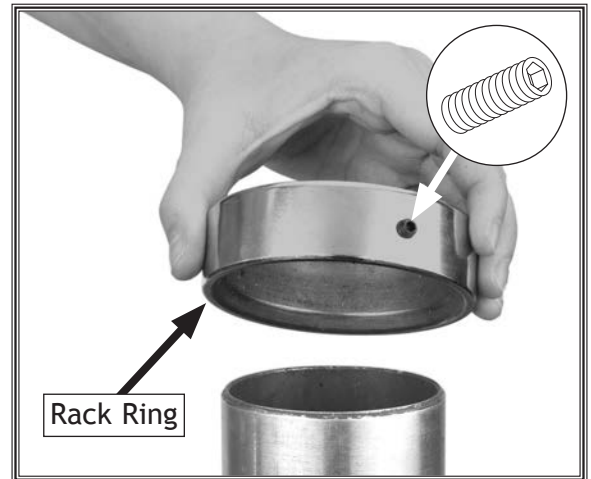

Figure 16. Removing rack ring from column.
- Loosen the set screw on the rack ring and remove the ring from the column (see **Figure 16**).